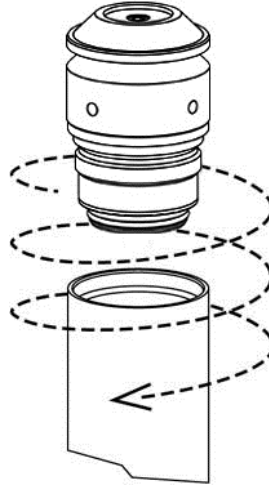

Figure 52. PG7601 piston-cylinder module installation
- ❶ **Remove the PG7601 Platform mounting post plug.** If it is present, unscrew the ORANGE plastic mounting post plug that is installed in the PG7601 Platform mounting post. Rotate counterclockwise to remove.
- ❷ **Remove the piston-cylinder module from its bullet case.** Open the piston-cylinder module bullet case by rotating its lid counterclockwise. Remove the piston-cylinder module from the bullet case base by unthreading it from the case. Hold the piston-cylinder module body by the knurled area and rotate it counterclockwise.
- ❸ **Place the piston-cylinder module in the PG7601 Platform mounting post.** Lubricate the module threads very lightly with the Krytox grease supplied with the PG7601 accessories. Place the piston-cylinder module (thread down) into the PG7601 Platform mounting post (see Figure 52).
- ❹ **Screw the piston-cylinder module into the PG7601 Platform mounting post.** Rotate the piston-cylinder module clockwise until all threads are engaged and there is NO gap between the piston-cylinder module and the PG7601 mounting post. Slight resistance will be encountered in the second half of travel as the piston-cylinder module O-rings seat in the mounting post.